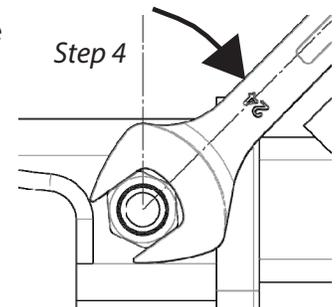

Fig 4. Tightening of Smart Pin Nut
**STEP 4** Tighten SMART PIN NUT by turning nut a further 1/8th of a turn in the clockwise direction using a 24mm spanner (Fig 4).